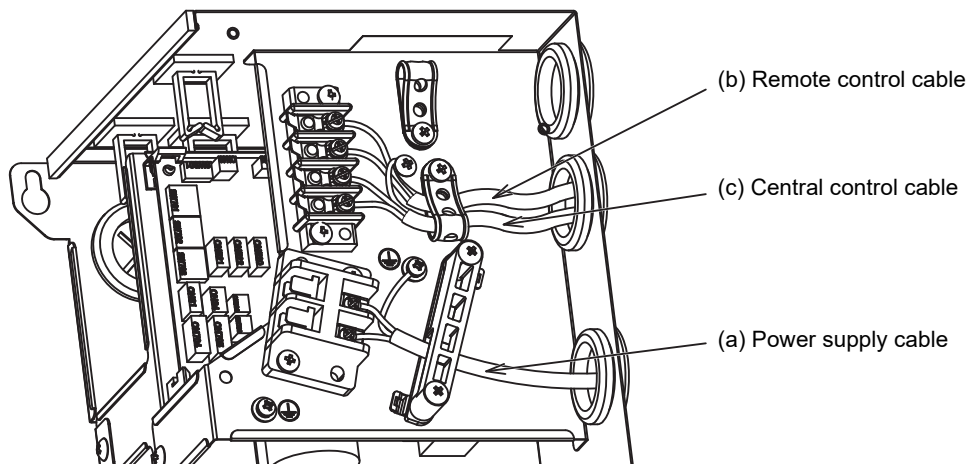

Fig.1 E-BOX (Top view)
2. Disconnect the following cables in Fig.1 from terminal blocks and screws: power supply cable (a), remote control cable (b), and central control cable (c).
10. Connect power supply cable (a), remote control cable (b) and central control cable (c) in Fig.1 that was removed in step 10-1-1. 2.